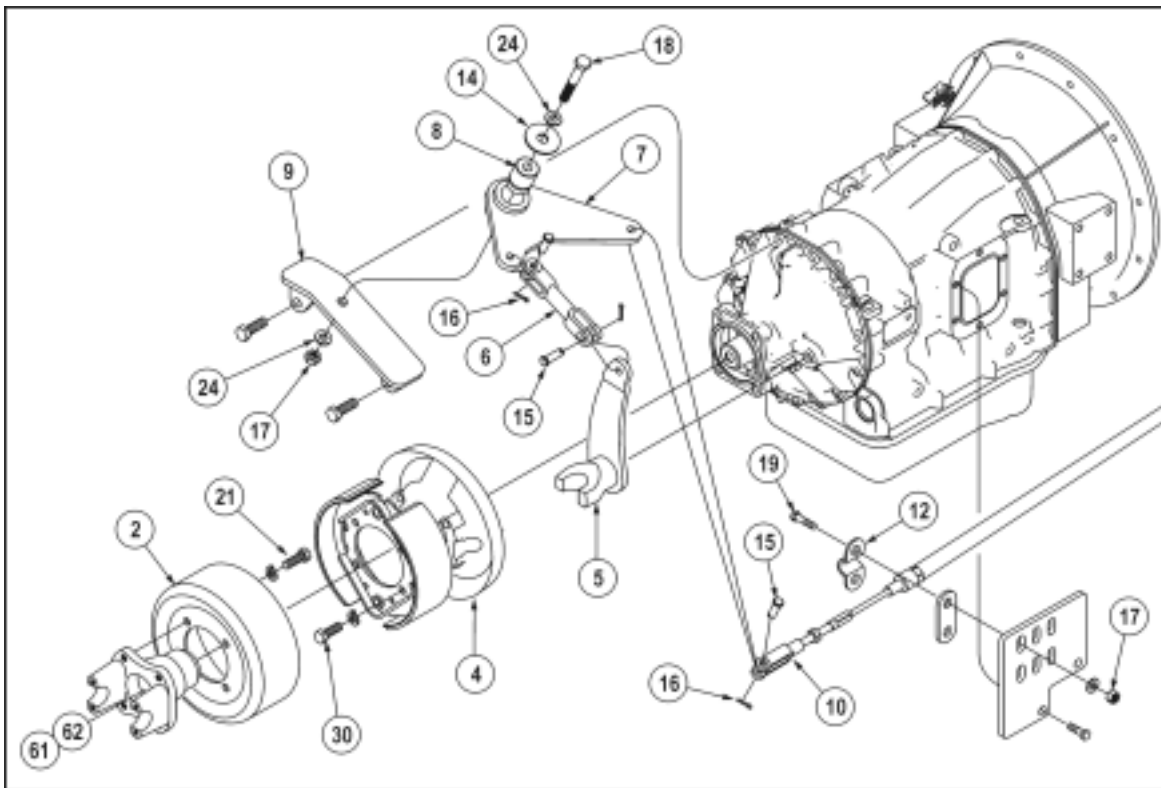

Figure 4—AT 2000
1. Remove lock nut (17) from capscrew (19).
2. Remove cable clamp (12). **Figure 4.**
3. Remove clevis pin (15) from clevis (10).
4. Remove cotter pin (16) from two places at clevis assembly (6).
5. Remove clevis pin (15) from two places at clevis assembly (6).
6. Remove clevis assembly (6) from Bellcrank (7) and park brake actuator lever (5).
7. Remove lock nut (17) and flat washer from Bellcrank pivot capscrew (18).
8. Remove Bellcrank assembly from Bellcrank assembly bracket (9).
1. Install flat washer (24) onto Bellcrank pivot capscrew (18). **Figure 4.**
2. Install flat washer (14).
3. Install mechanical park brake linkage spacer (8) onto Bellcrank pivot capscrew (18) and into Bellcrank assembly bushing.
4. Install Bellcrank assembly onto Bellcrank assembly bracket (9) with flat washer (24) and lock nut (17). Torque to non-designated fasteners torque specifications contained in Section 005—Introduction.
1. Install the brake shoe/support plate assembly onto the parking brake shield (4). **Figure 4.**
2. Carefully align the assembly with the four mounting holes in the transmission flange. Make sure the cam lever fork (5) fits over the upper anchor pin and between the ends of the brake shoe assemblies.
3. Install capscrew (3) and lock washer in four places. Snug up all four capscrews, and then in small increments (using a 180° or "cross" pattern to avoid distortion of the support plate assembly), torque the capscrews to 81-97 ft-lbs (9.15-10.95 Nm).
5. Install capscrew (61) and lock washer. Torque to 110 ft-lbs (12.42 Nm).